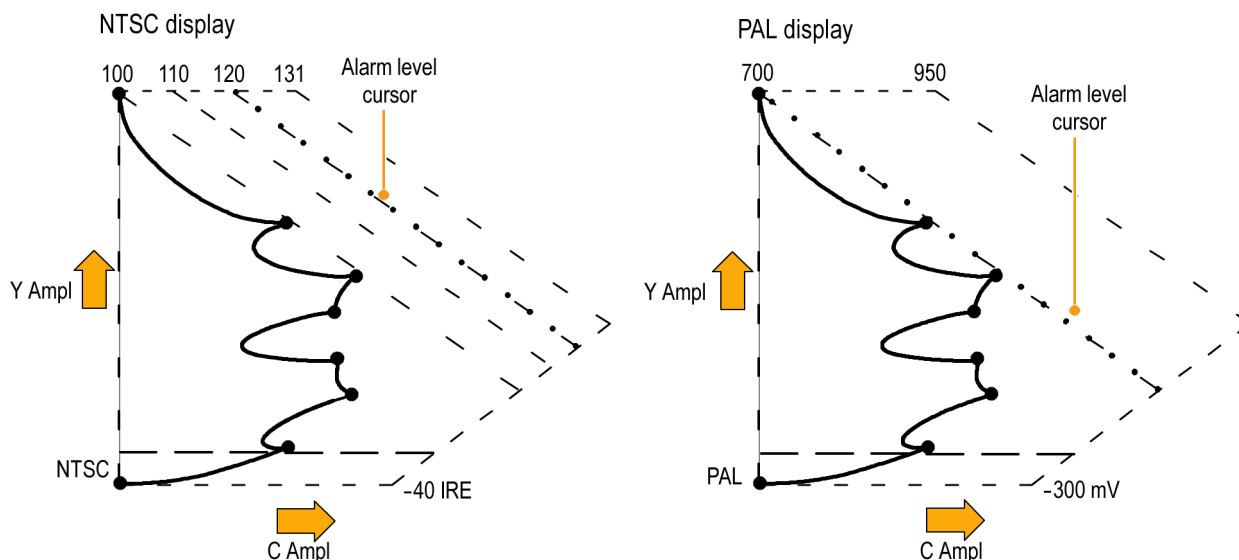

Figure 65: Arrowhead gamut display plots
The Arrowhead gamut display plots luminance (Y) against chrominance (C) to check if the composite signal adheres to standard gamut. NTSC and PAL Arrowhead displays (75% Color bars) and indicates the values of the graticule lines. The arrowhead shape of the graticule results from overlaying the standard limits for luminance and luminance-plus-peak chrominance. (See Figure 65.)